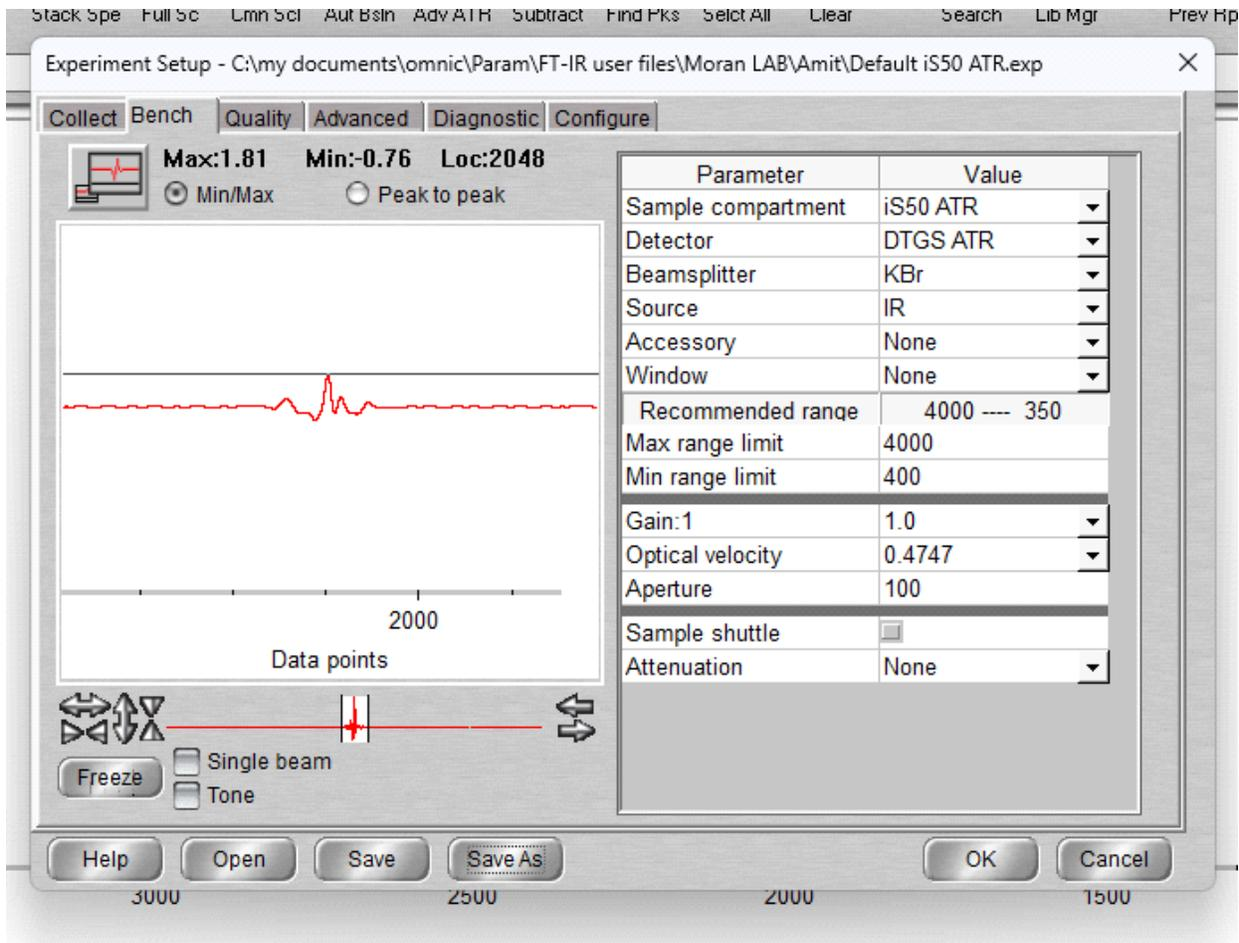

Figure 10. Experimental Setup Bench Tab
10. Click Bench> The red signal peak should be within two black borders (Fig. 10 is within range) and check the parameters on the right. Sample compartment (ATR), detector (ATR), Beamsplitter, Source (KBr), Accessory, window should be as displayed in Figure 10 for default run. You can change the scan range here for your specific experiment (recommended range is 4000-350). Leave the Quality and Advanced settings on default.